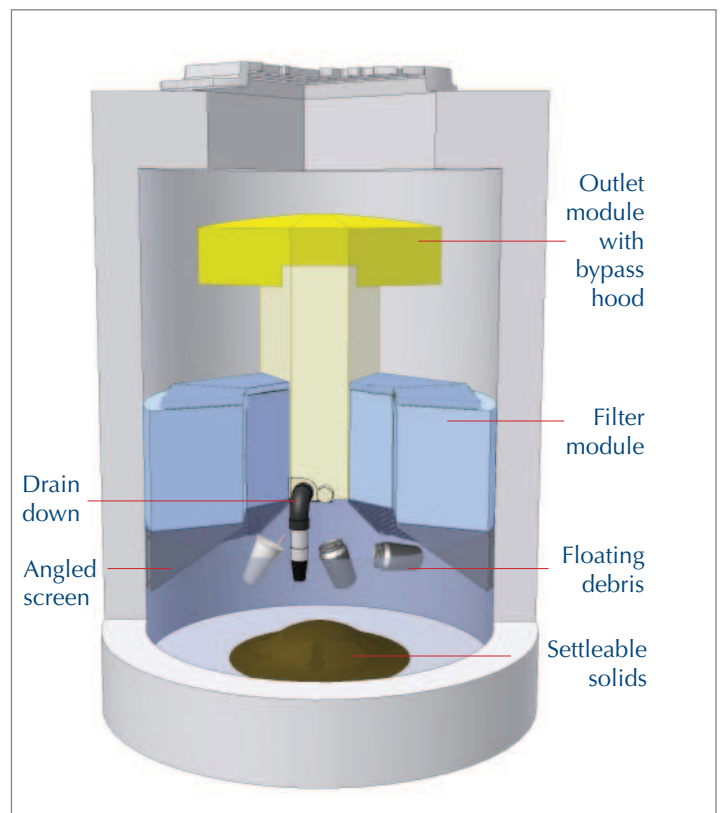

Figure 1: Pollutants captured in the Up-Flo Filter
A head differential between the system inlet and outlet of thirty-one (31) inches will produce 0.045 cfs of flow (See Figures 1, 2, and 3.) A draindown mechanism allows the water to drain below the elevation of the filter media between storm events.
The Up-Flo Filter is designed to operate as a “treatment train” by incorporating multiple treatment technologies into a single device. Trash and gross debris are removed by sedimentation and screening before they are introduced to the filtration media, preventing surface blinding of the filter media. The Up-Flo Filter is a wet-sump device. Between storm events, oil and floatables are stored on the water surface separate from the sediment storage volume in the sump (see Figure 1). The high-capacity bypass siphon acts as a floatables baffle to prevent washout of captured floatable pollutants during high-intensity events.